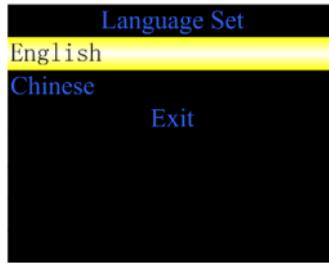

Figure 5.4 Language setting menu
- 2) The language setting menu is shown as Figure 5.4